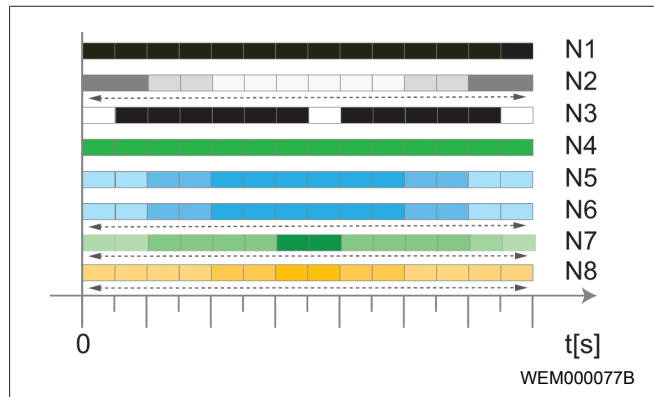

Fig. 22
- The LED changes from green (N3) to pulsing blue (N4). See Fig. 22.